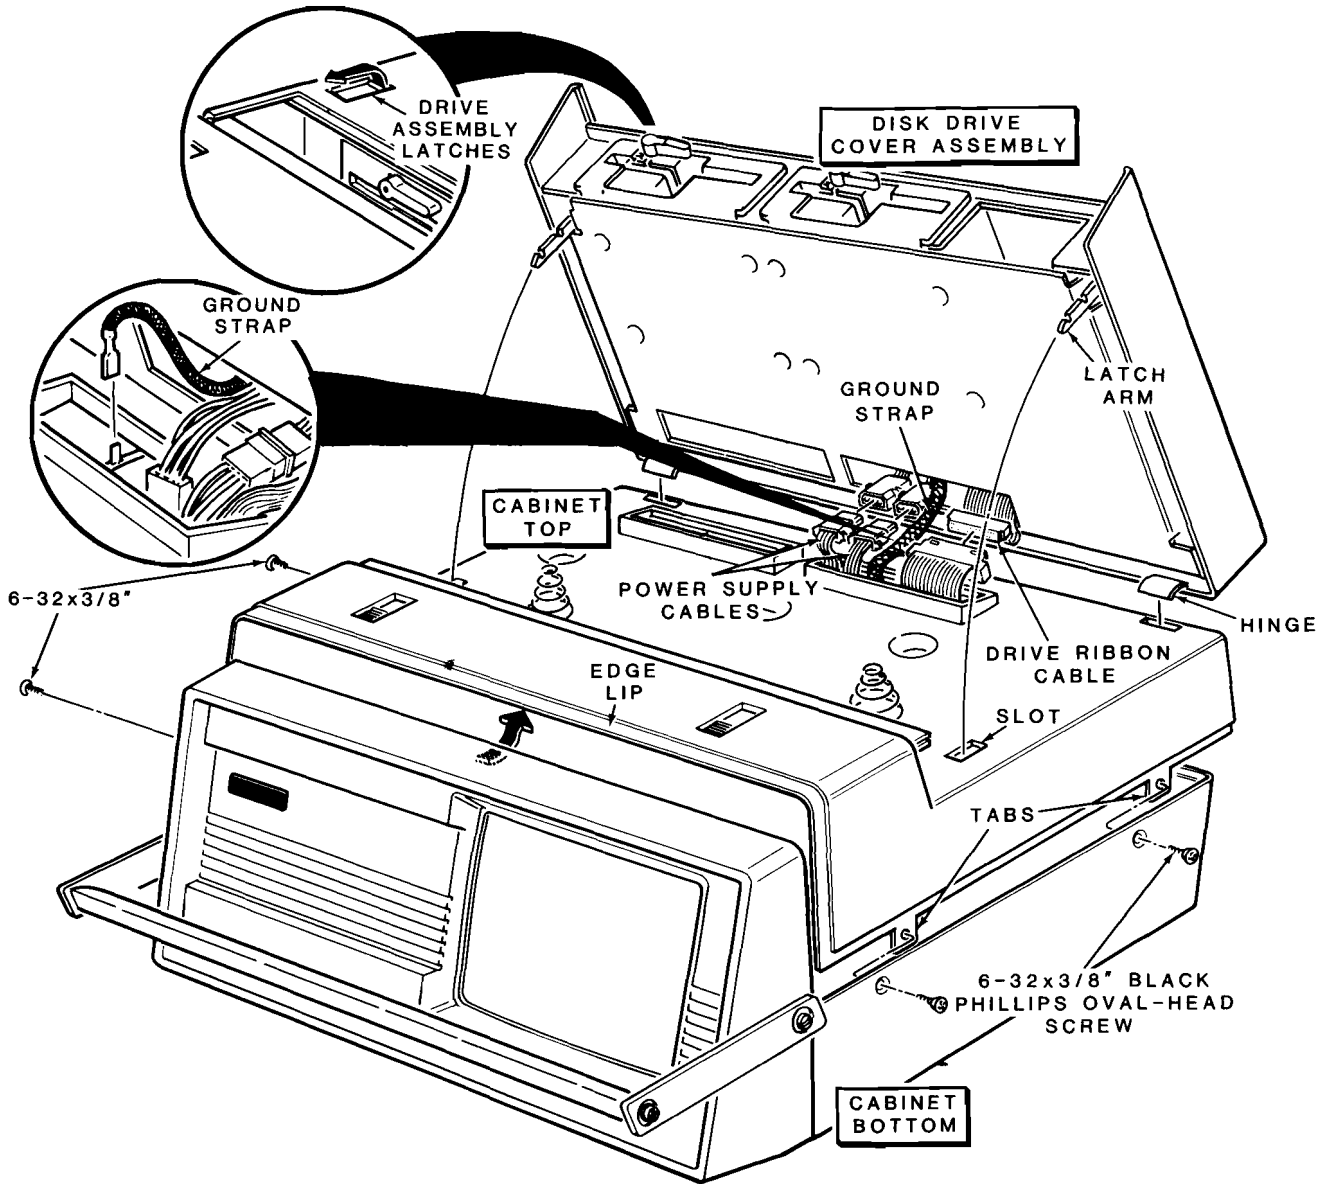

Figure 2.3. Z-160 Disassembly
- Refer to Figure 2.3. Slide the drive assembly latches (shown in inset) toward the front of the computer and hold them in that position while lifting the disk drive assembly. Lift the drive assembly until the latch arms are free of the slot in the cabinet top.